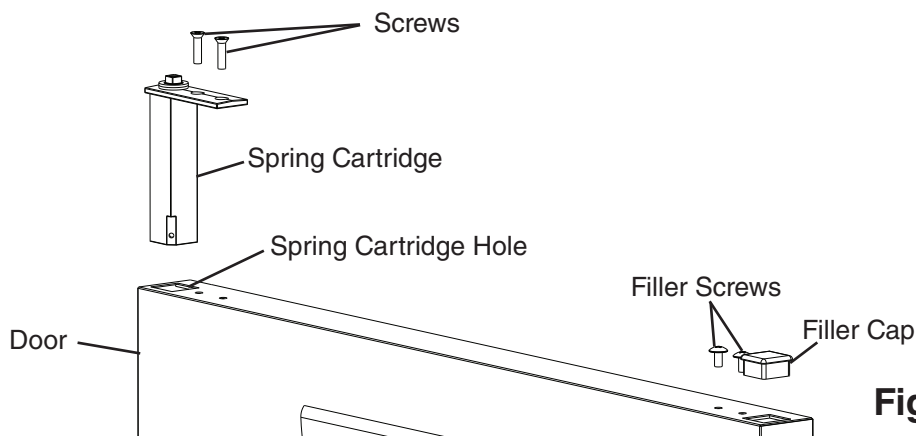

Fig. 9
- 9) Clear foam from the spring cartridge hole to allow for spring cartridge installation. See Fig. 9. Install the spring cartridge in its new location. Reinstall the filler cap and filler screws on the opposite side of the door.